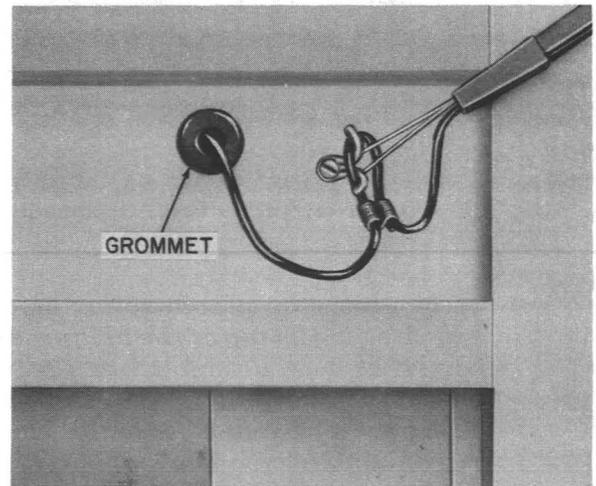
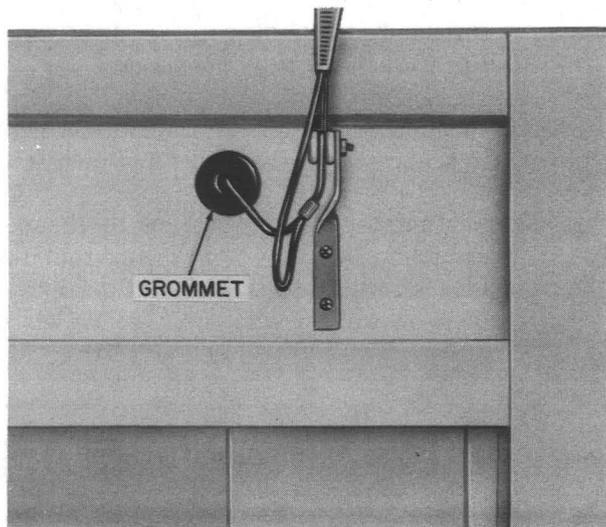

Fig. 18—Drop Wire Hook for First Attachment
Fig. 19—Corner Bracket for First Attachment
- 3.06** At outdoor locations, attach drop wire hook (Fig. 18) or corner bracket (Fig. 19) (whichever is required) on right-rear column adjacent to the entrance hole as follows:
(a) **Drop Wire Hook:** Secure drop wire hook (Fig. 18) to clinch nut (provided with booth) using one 1/4-20 by 3/4 roundhead machine screw, one 1/4-inch flat washer, and one 1/4-inch lockwasher.
- (1) Secure the corner bracket (Fig. 19) to the threaded clinch nut using one 1/4-20 by 3/4 Phillips roundhead machine screw.
- (2) Using the bracket as a template, drill a clearance hole for another 1/4-inch screw.
- (3) Further secure the bracket to the booth using one 1/4-20 by 3/4 Phillips roundhead machine screw, one 1/4-inch flat washer, one 1/4-inch lockwasher, and one 1/4-inch hex nut.
- (a) KS-19425, List 21 Sign Blank Assembly (Fig. 18 and 19)